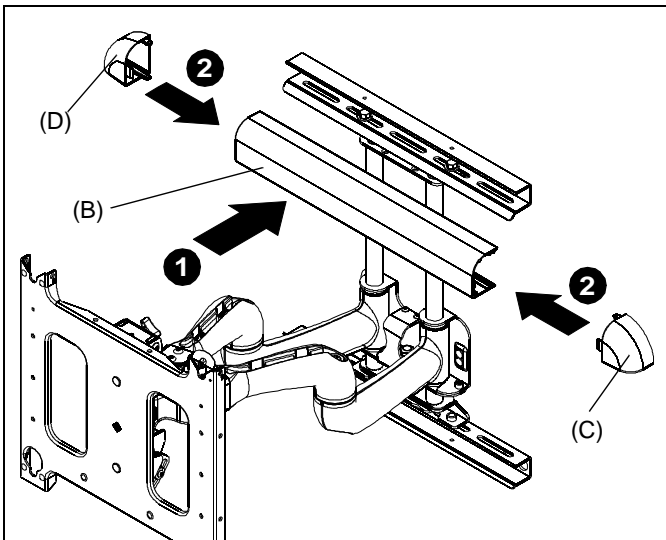

Figure 4
1. Install cover (B) over the top bracket. (See Figure 4)
2. Install end caps (C and D) into the cover and top bracket. (See Figure 4)
3. Repeat Steps 1 and 2 for the lower mounting bracket. (See Figure 4)